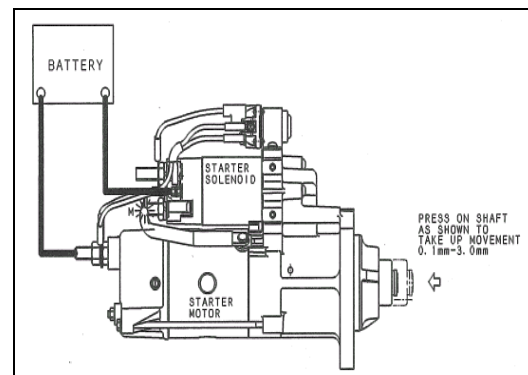

Figure 8 - CHECKING OUTPUT SHAFT CLEARANCE (GROUND-FLOAT TYPE)
3. As described in figure 8, measure the distance between the shaft pressed-in and pulled-out positions. The play should be within 0.004" to 0.118" (0.1 to 3.0 mm). If the measured value does not satisfy the standard, replace the starter.